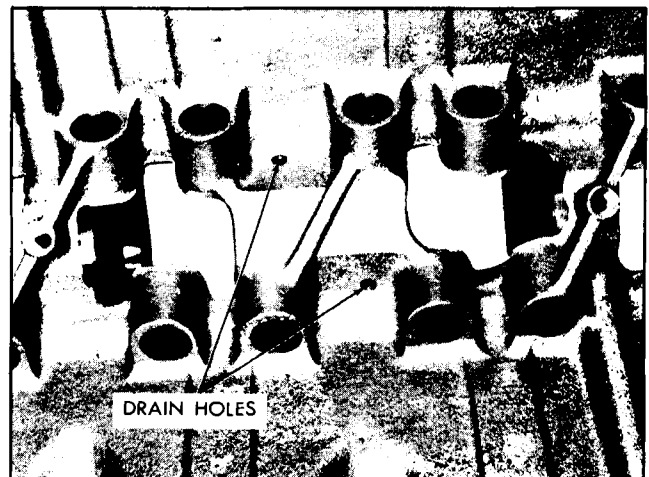

Fig. 6-166 Drain Holes in Lifter Gallery
7. Use wire to check two drain holes in lifter gallery (Fig. 6-166).